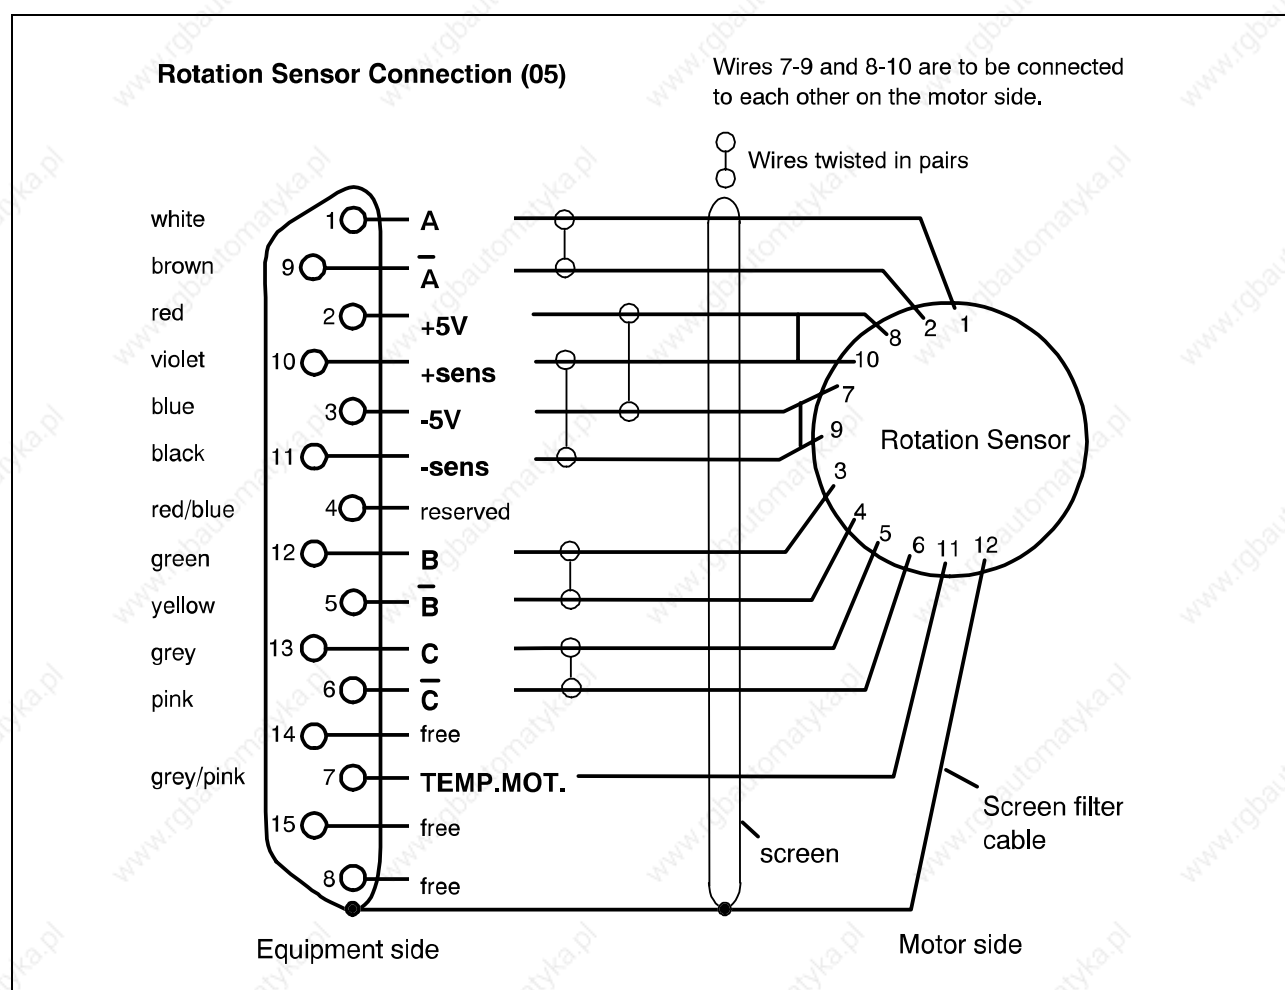

Figure 2-9 Wiring of the Rotation Sensor
Solder the wires of the rotation sensor cable onto the pins of the 15 pins Sub-D-socket, see figure 2-9.
5. Twist the wires of the rotation sensor cable in pairs according to figure 2-9.
6. Make the connection on the side of the motor with 12 pins+PE-circular connector according to figure 2-9. Also attach the screen to the cable entry clamp.